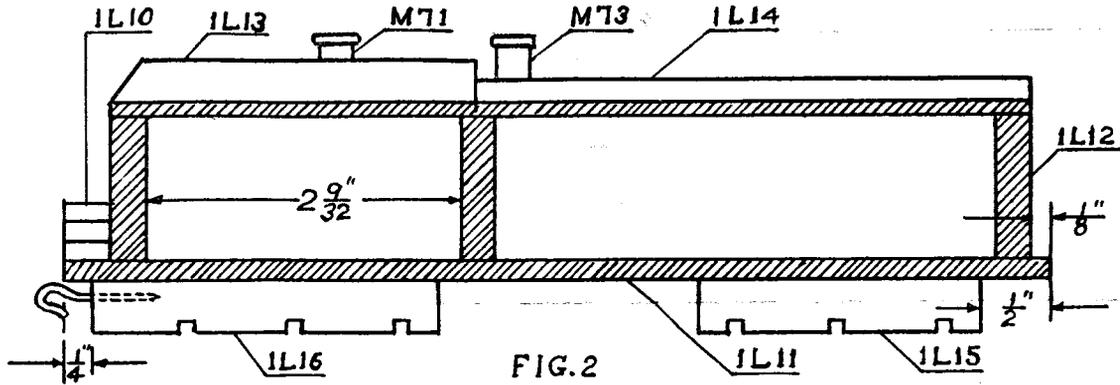

FIG. 2
**ASSEMBLE TENDER:** Glue steps (1L10) flush with one end of bottom (1L11). Center carefully. Glue on the three blocks (1L12) as shown in Fig. 2.